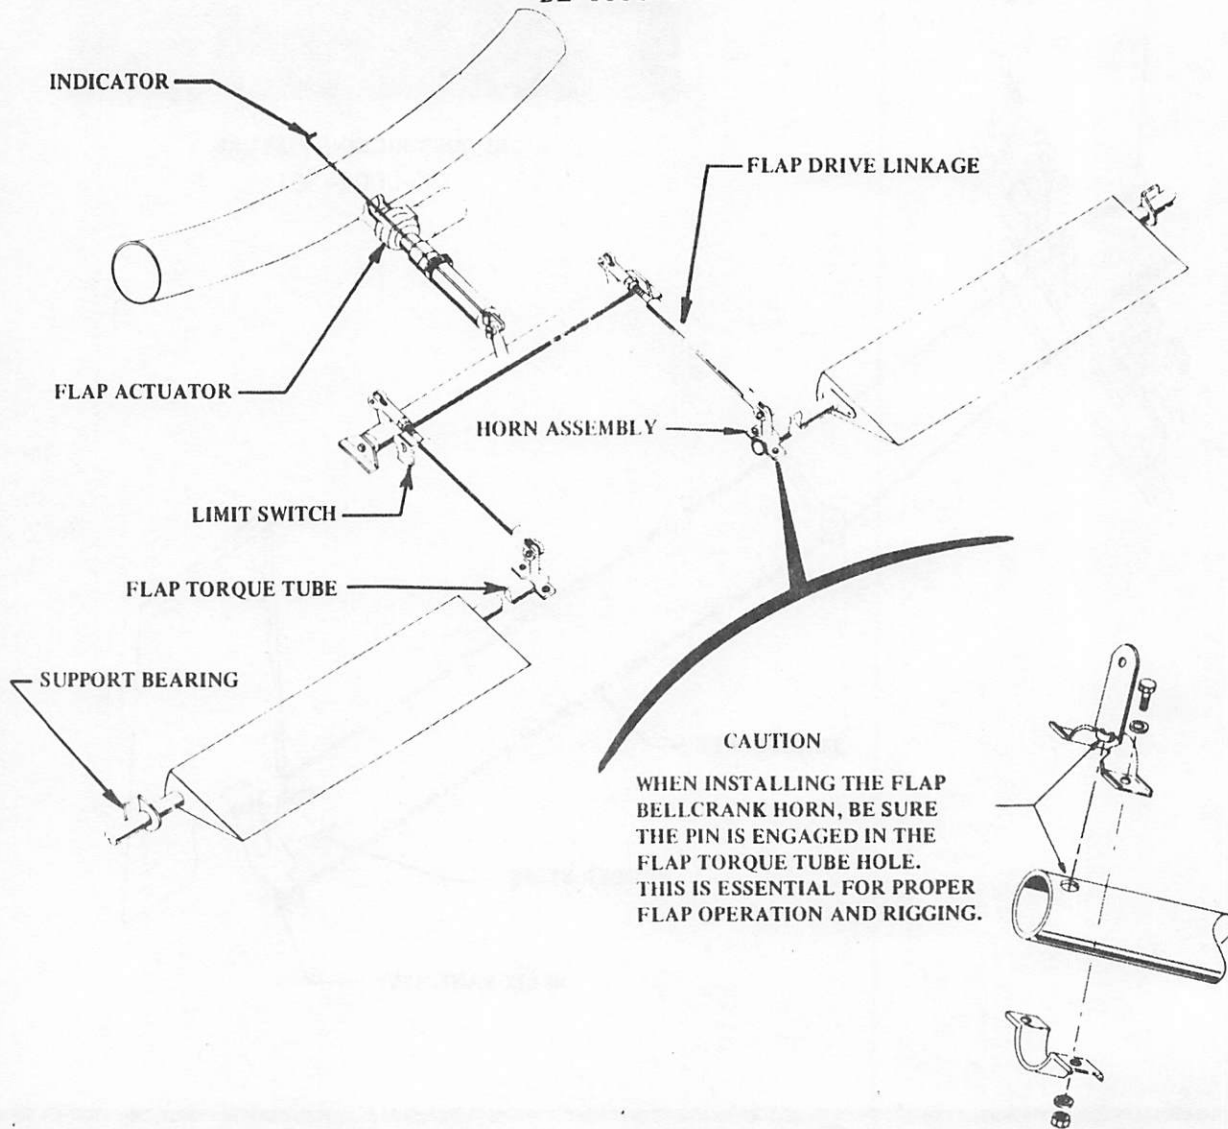

Figure 5-5 Flap System
The flaps are located on the inboard trailing edge of each wing and actuated by the flap motor. The flaps, when lowered, provide a nose-down attitude and a slower landing speed. The flaps are controlled by a flap switch mounted on the center console. The flaps are limited in the full up position by a limit switch mounted adjacent to and activated by the flap linkage (Figure 5-5).
- a. Lower the flaps to  $30^\circ \pm 2^\circ$  as indicated by a flap rigging fixture. Any required adjustment should be made to the clevis on the flap linkage, located behind the seats (See Figure 5-5).